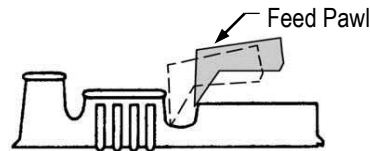

Figure 9
2. Watch the feed pawl as the machine is hand-cycled (or slowly cycled) several times. It should have enough over-travel on the backstroke to pick up the next terminal, but not so much over-travel that the feed pawl moves up onto the body of the terminal. See Figure 9.
- c. Using the backstroke adjustment knob (see Figure 2), position the feed pawl to the proper back position, typically the end of the wire barrel (see Figure 9). If the end cap is in place, use a 3-mm hex wrench or small screwdriver to reach through the end cap to rotate the feed adjustment knob. The adjustments are in 0.08-mm [.003-in.] increments or 30 degrees and can be felt as clicks.